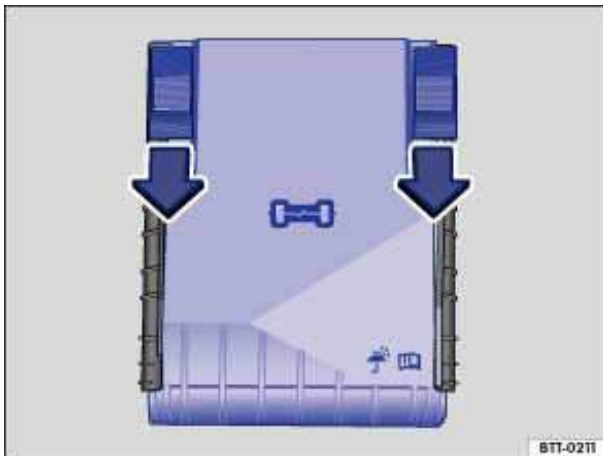

Fig. 183 In the engine compartment: Fuse box cover.
- Move the release buttons in the direction of the arrows ⇒ fig. 183 to unlock the fuse box cover.